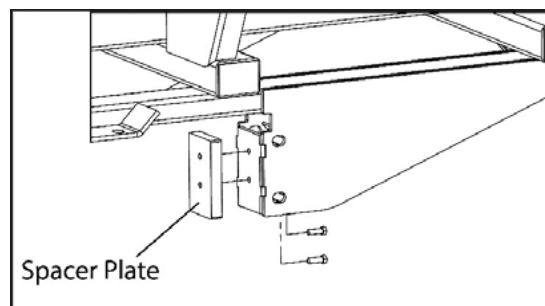

Figure 10 - Spacer Plates
2. If Spacer Plates are attached to dry box, remove prior to installing dry box on trailer (Figure 10).